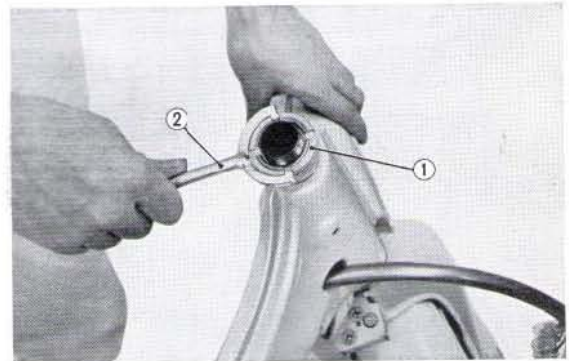

Fig. 4.19 ① Steering top cone race
1. Assemble 26 and 21 steel balls into the bottom and top cone races respectively with the use of grease. (Fig. 4-19)